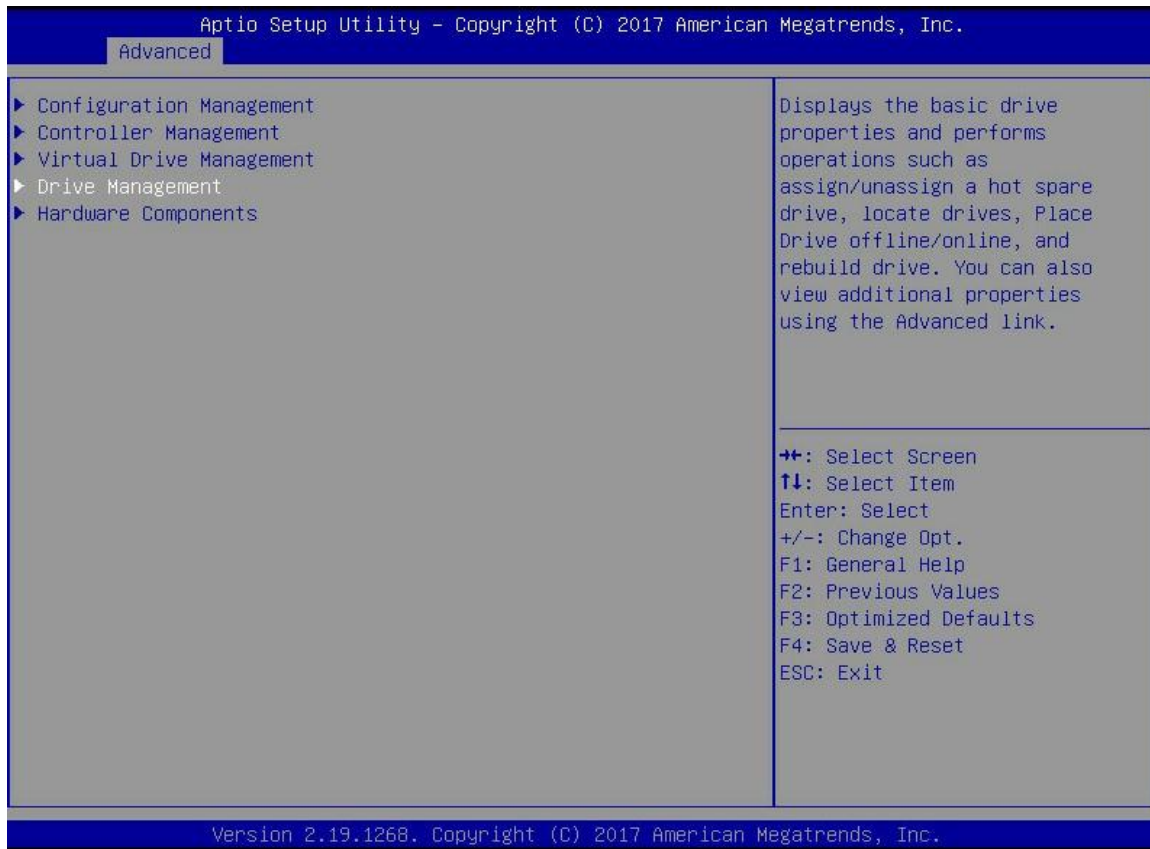

Figure 6-53
a) As shown in figure 6-53, select drive management in the raid card configuration interface and press enter.